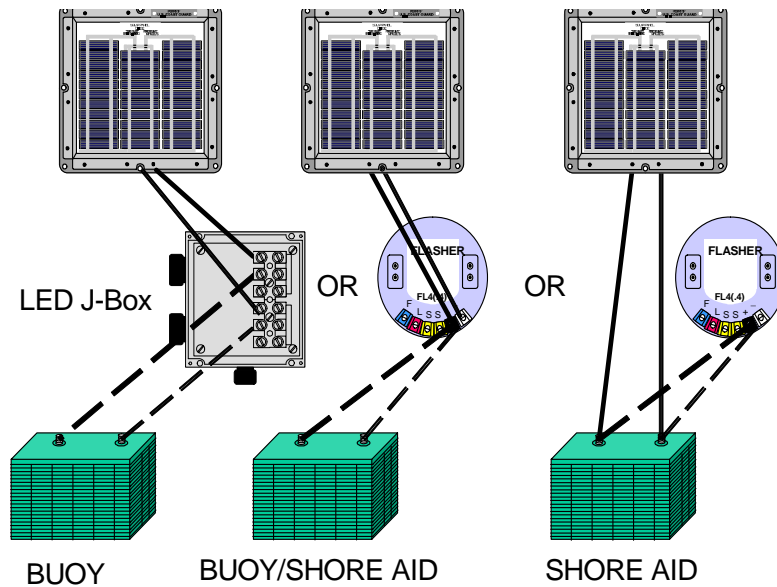

Figure 2-3
- f. The solar panel may be wired at the flasher, LED junction box or battery, as shown in Figure 2-3 whichever is convenient.